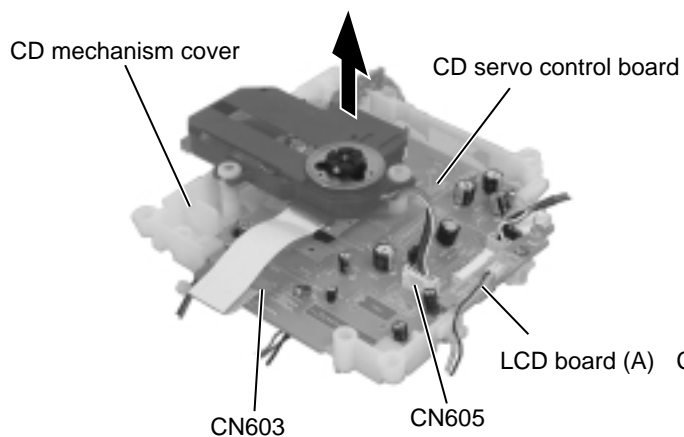

Fig.21
■ Removing the LED board (A) (See Fig.21)
1. Remove the screw O attaching the LED board (A).